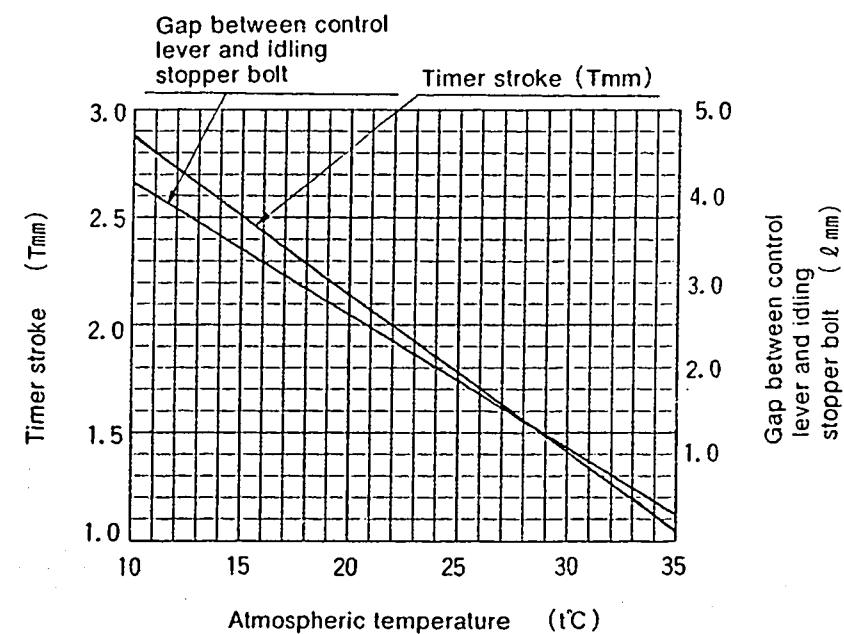

Fig. 2
1. Calculate the timer stroke from Fig. 2 according to the atmospheric temperature at the time of adjustment
1. Calculate the block gauge dimension $\ell \pm 0.05\text{mm}$ from Fig. 2 according to the atmospheric temperature at the time of adjustment.